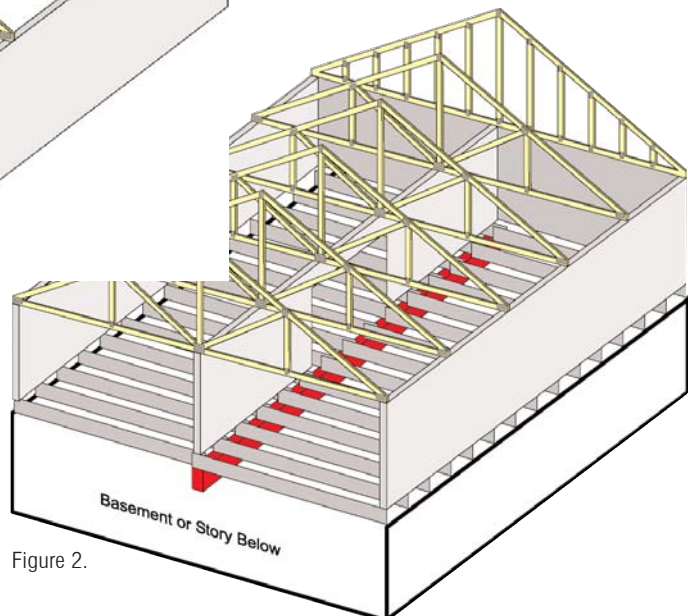

Figure 2.
2. Is there a beam or bearing wall under the wall on the story below? (See Figure 2.)